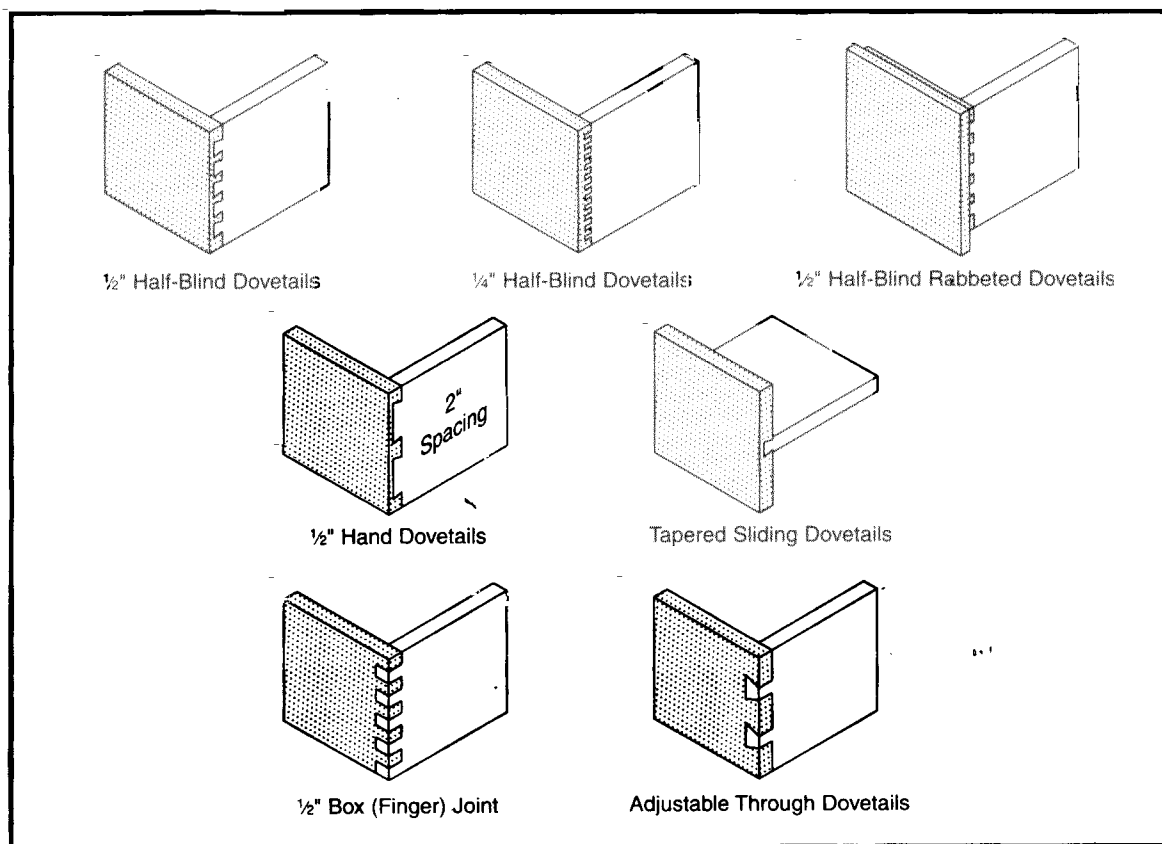

Fig. 1
6. Next, examine the drawer pieces to make sure they were cleanly routed. See Fig. 1